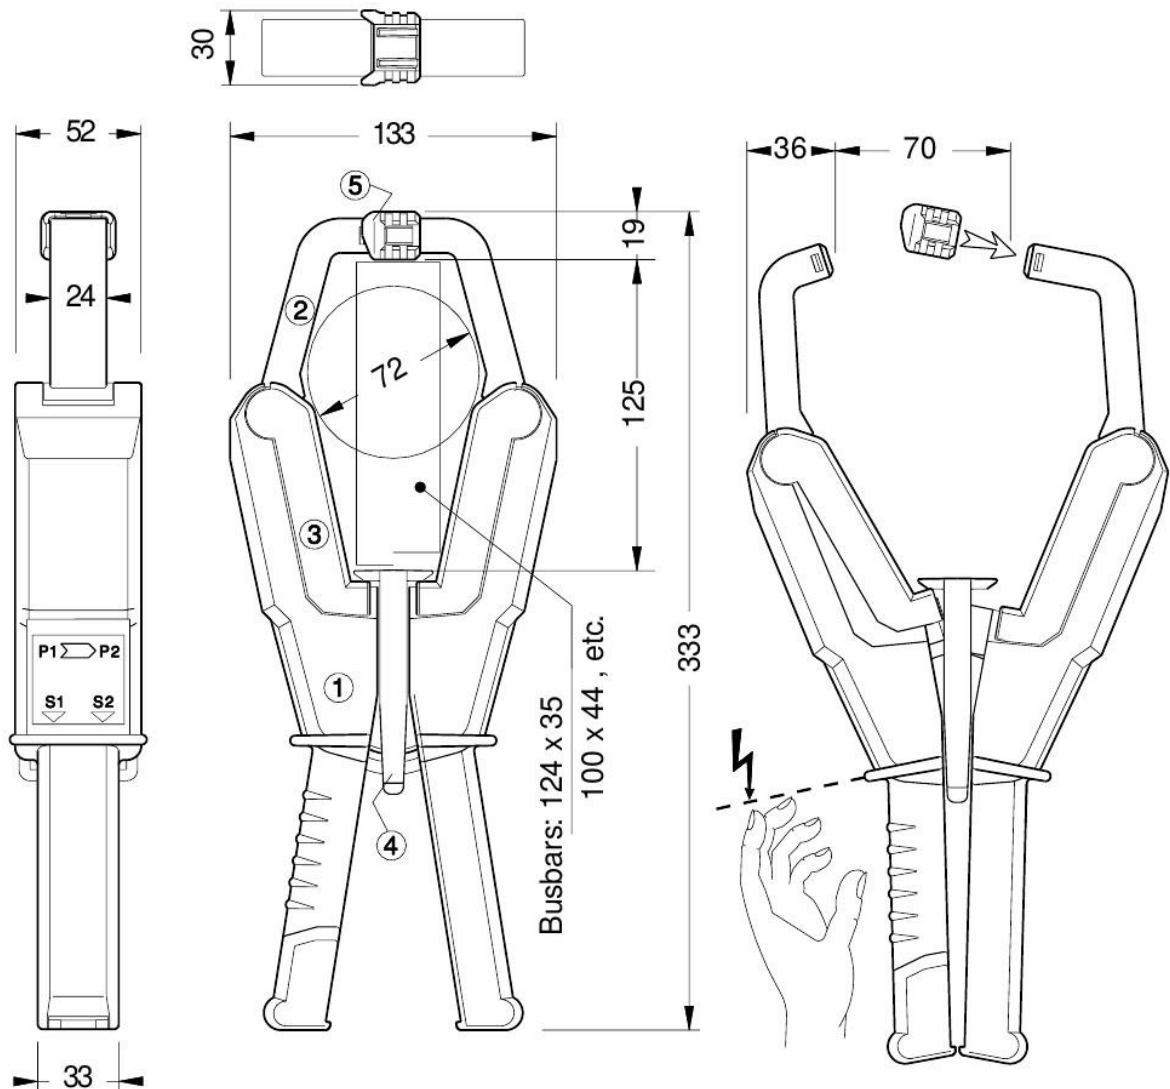

Figure 2.57: Dimensions in mm and protection against electric shock and short-circuit
- Use safety cover 'P' Figure 2.57 [→70] for protection against short-circuits during clamping!